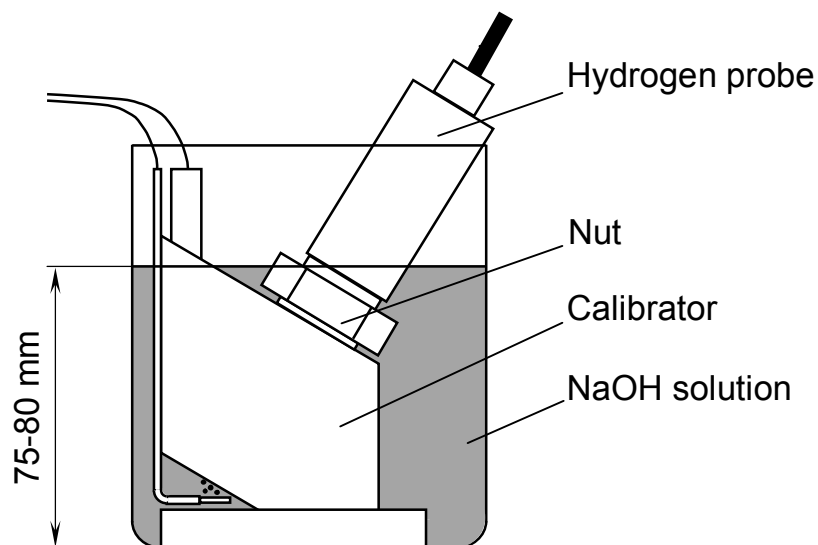

Fig. 2.3 – Analyzer calibration in the calibrator
- push the analyzer probe measuring element into the calibrator socket against stop as shown in Fig. 2.3;